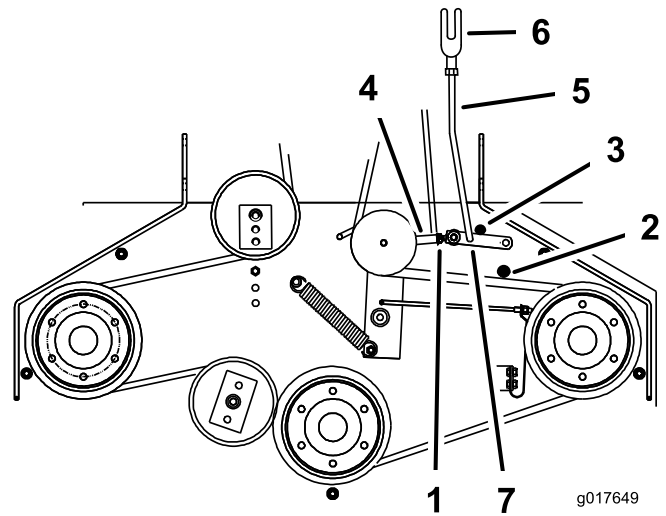

Figure 46
8. To adjust the assist-arm link, remove the hairpin cotter from the assist arm (Figure 46).
11. Install the assist-arm link into the assist arm and secure it with the hairpin cotter (Figure 46).
5. Ensure that the assist arm is against the rear assist-arm stop on the deck (Figure 46).
7. The assist arm should contact the front assist-arm stop on the deck. If it does not contact, adjust the bellcrank so that it is closer to the gusset (Figure 46).